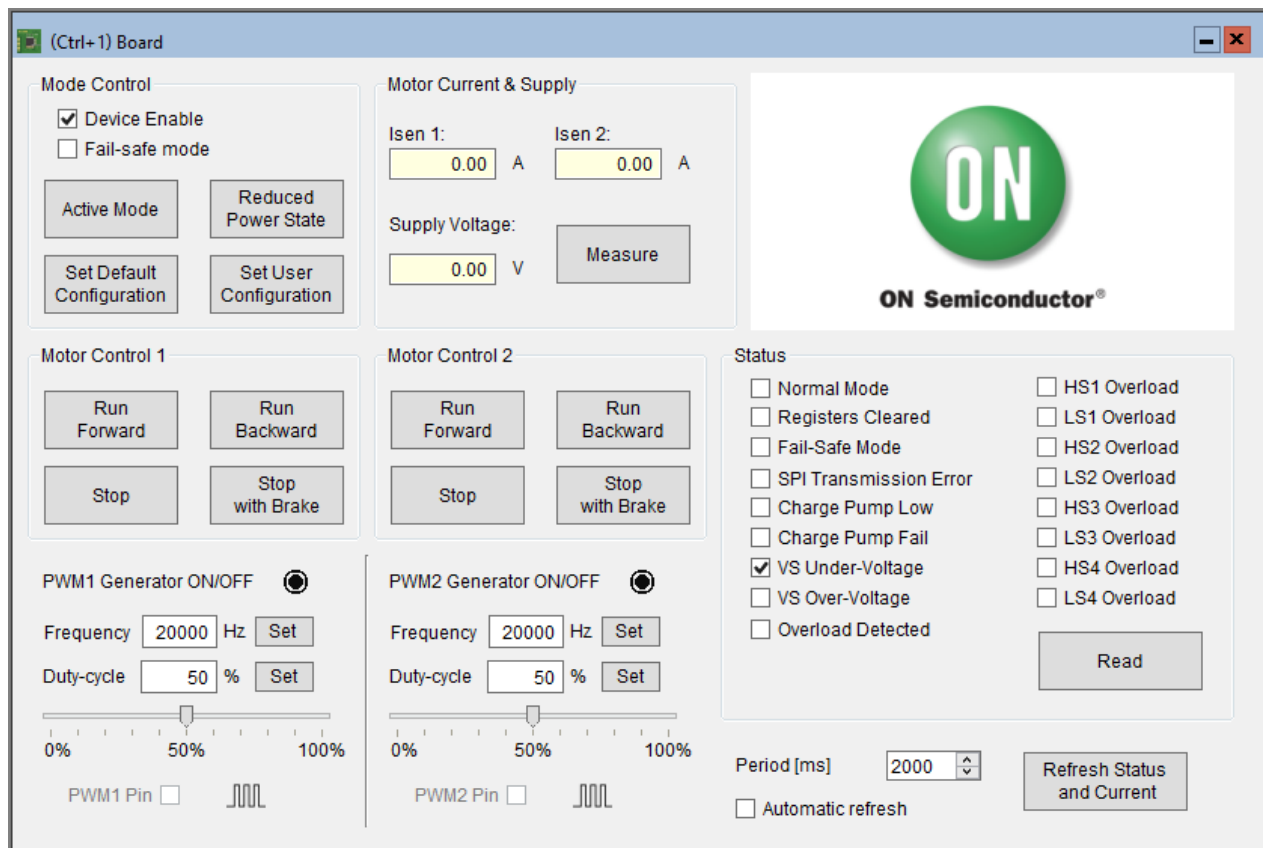

Figure 9. NCV7544 Controller Framework, Board Window
12. “Board” window (Figure 9) demonstrates application controls of two channels including